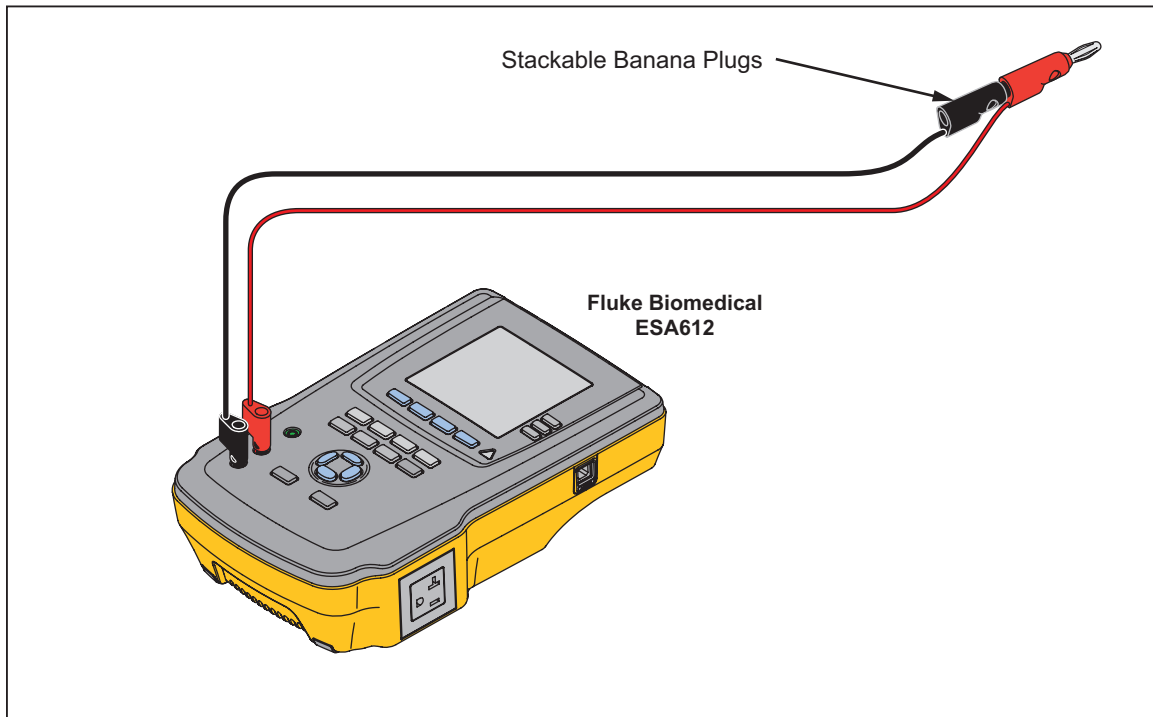

Figure 3-5. Point to Point Resistance Verification Connections
1. Connect two test leads to the red and black jacks. Short these two leads together as shown in Figure 3-5.